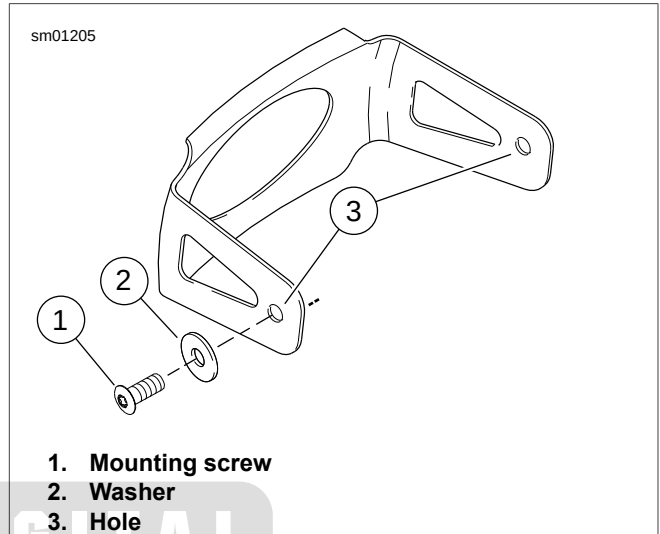

Figure 4-21. Fuel Tank Mounting Bracket (typical)
2. See Figure 4-21. Loosely install the two mounting screws and washers through the holes of the bracket into the threaded boss on the frame.